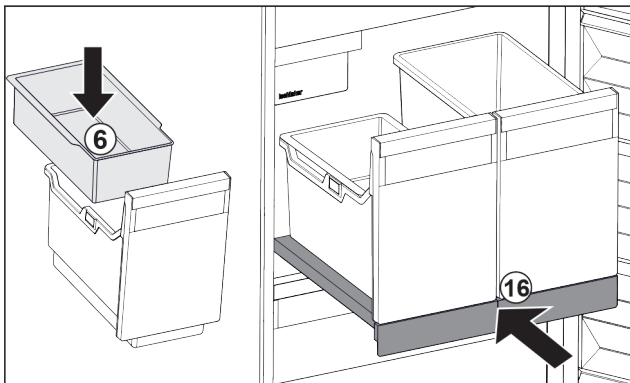

Fig. 37
- ▶ Insert hang-on tray Fig. 37 (6) for ice cubes.
- ▶ Slide in the pull-out board with container (IceTower). Fig. 37 (16)